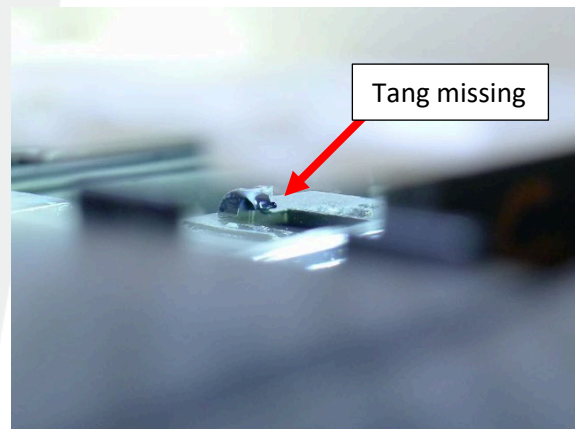

Figure 4 – Tang is broken off – Go to Step 4
- If the tang is broken off or damaged in any way (Figure 4), regardless if the latch pin is present, continue to step 4.